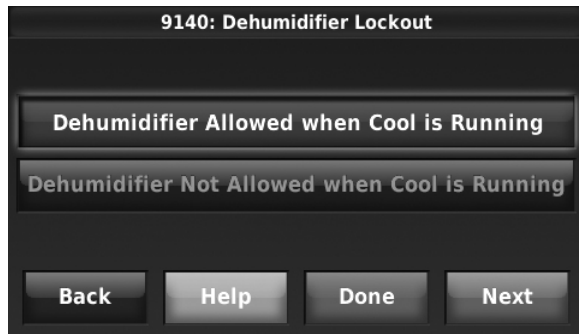

Fig. 124.
- Set the desired lockout option. See Fig. 124.